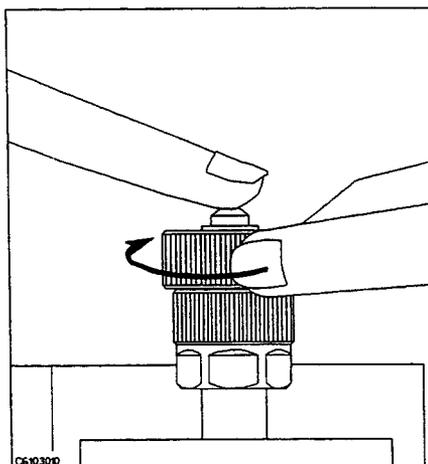

Figure 4-8.
8. Connect the $0\ \Omega$ termination on the APC-7[®] connector as shown in Figure 4-8.